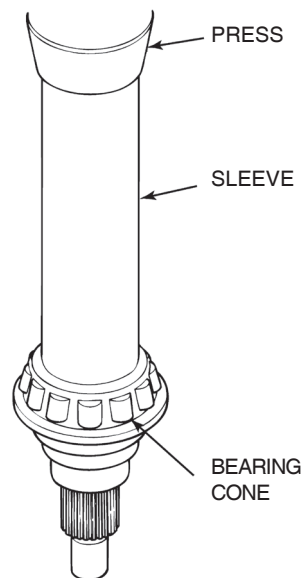

Figure 5.69
- A. If removed, install the bearing cone in the input shaft. Use a press and sleeve to install the cone in the input shaft until it bottoms on the shoulder of the shaft. Figure 5.69.